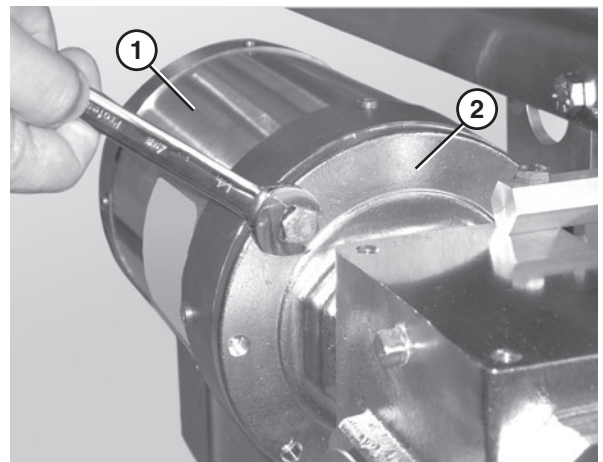

Figure 69
- Remove the bolts that connect the motor to the drive assembly (**Figure 69**).
- Remove the motor (**Figure 69, item 1**) from the drive assembly (**Figure 69, item 2**).